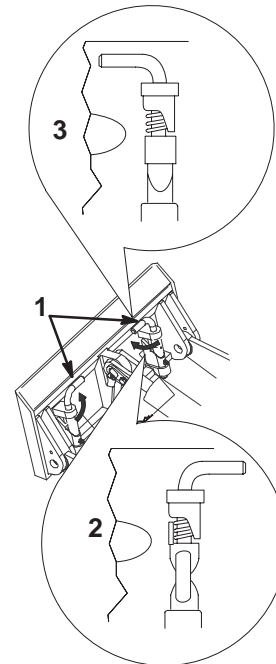

Figure 24
7. Engage the quick attach pins, ensuring that they are fully seated in the mount plate (Fig. 24).